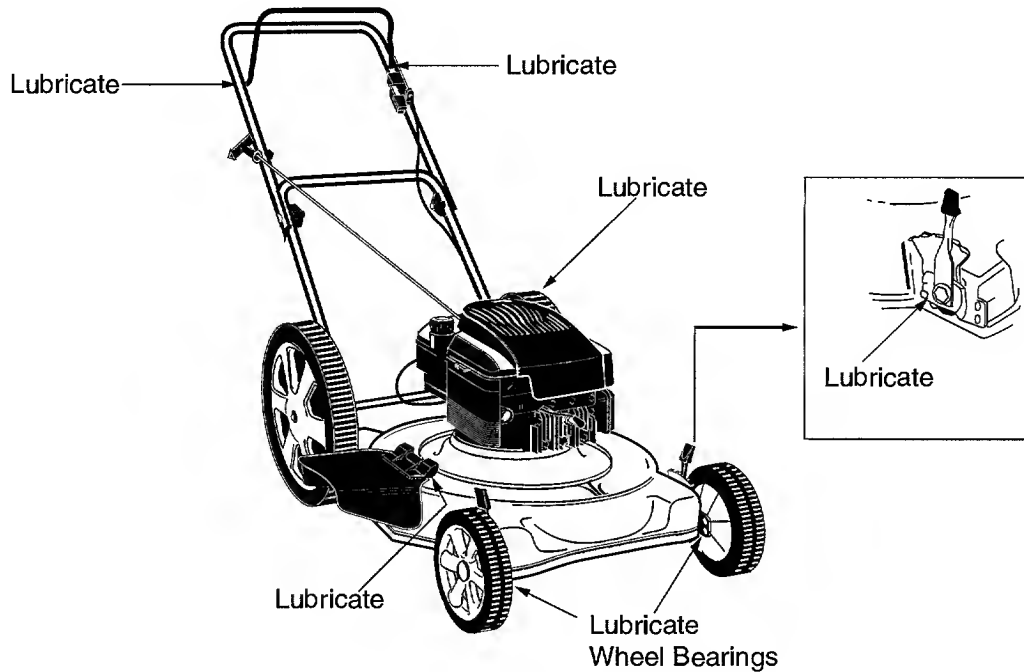

FIGURE 14
For complete lubrication chart, see Figure 14.
- Lubricate mower following the lubrication chart in Figure 14 on page 15.